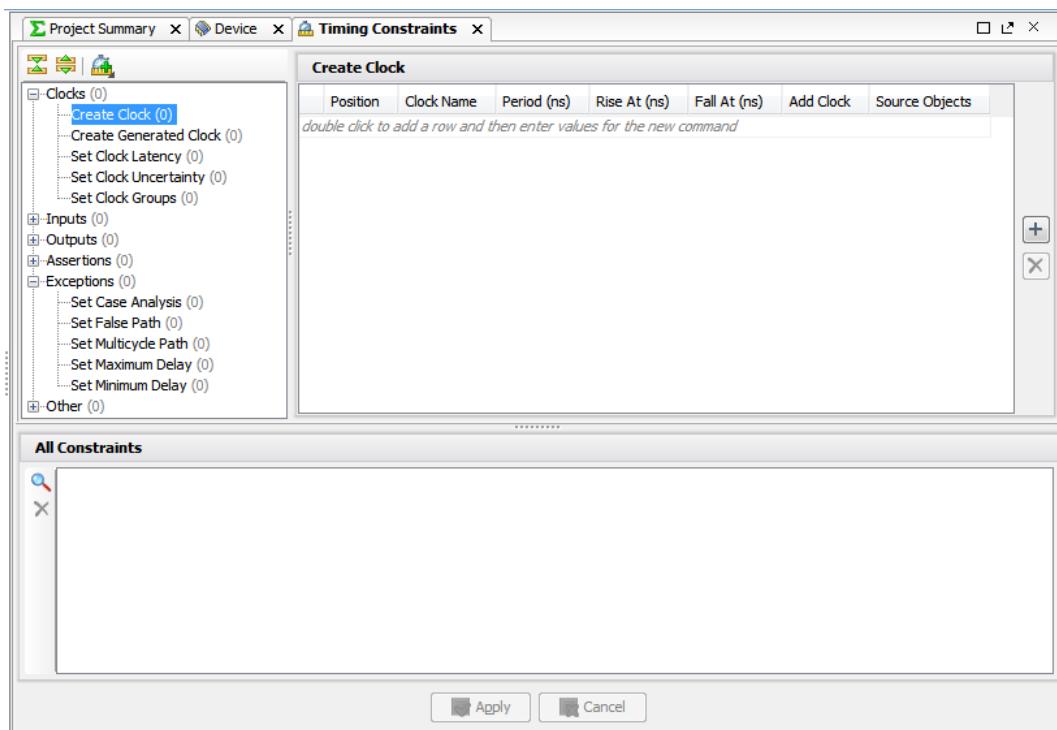

Figure 8: Timing Constraints window
- **Constraints tree view:** Located in the upper-left of the Timing Constraints window, as shown in Figure 8: Timing Constraints window. This section displays standard timing constraints, grouped by category. Double-clicking on a constraint in this section opens a Constraints wizard to help you define the selected constraint.
- **Constraints Spreadsheet:** Located in the upper right of Figure 8. This section displays timing constraints of the type currently selected in the Constraints tree view. You can use this to directly define or edit constraints instead of the Constraints wizard if you prefer.
Notice that the Constraints spreadsheet displays different columns for Set Input Delay than for the Create Clock constraint as shown in Figure 8.